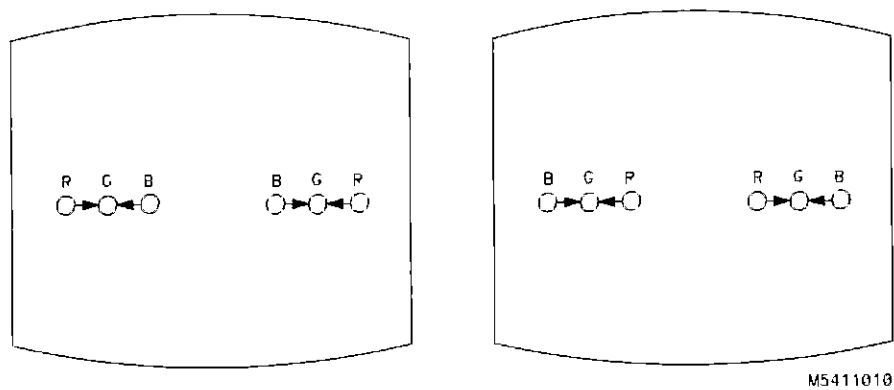

Figure 3-19. H.TILT Adjustment.
- Adjust H.TILT (RV806) located on the bottom PC board for coincidence of red, green and blue at right and left sides of screen (see figure 3-19)